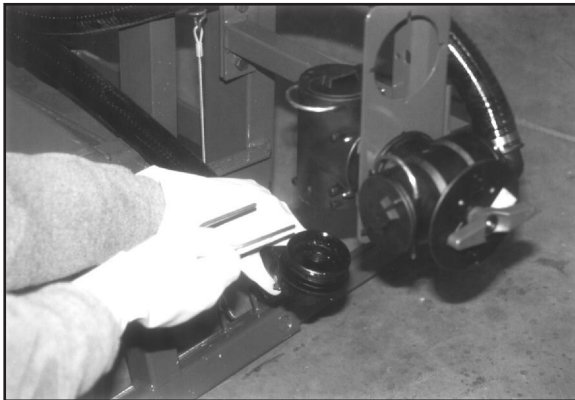

Fig. 27
4. Remove the 90° hose fitting from the valve. (Fig. 27)